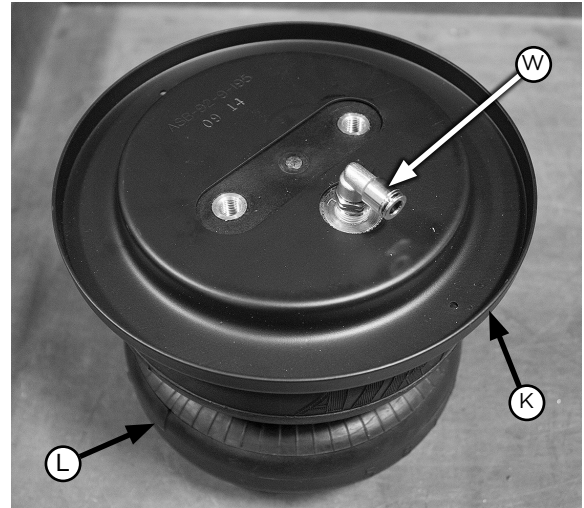

Fig. 6
1. Install the swivel elbow fitting (W) into the top of the air spring (L) finger-tight. Tighten the swivel fitting an additional 1 1/2 turns. Place a roll plate (K) on top of the air spring (Fig. 6).